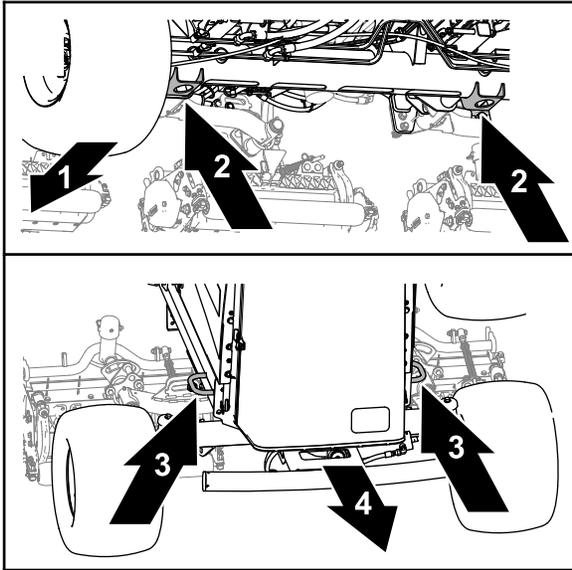

Figure 57
- Front—the hole in the jack brackets of the front-axle tube (Figure 57).